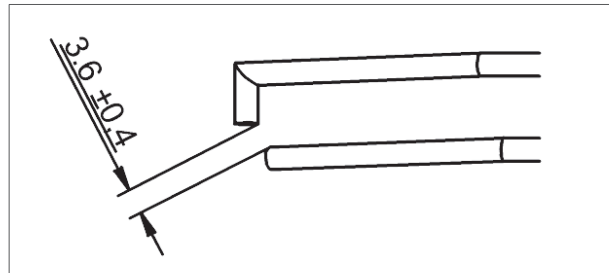

Figure 31 - Distance between the two electrodes
- b. The distance between the two electrodes should be $3.6 (\pm 0.4)$ mm (figure 31).